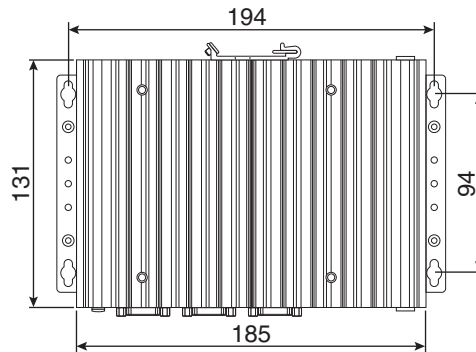
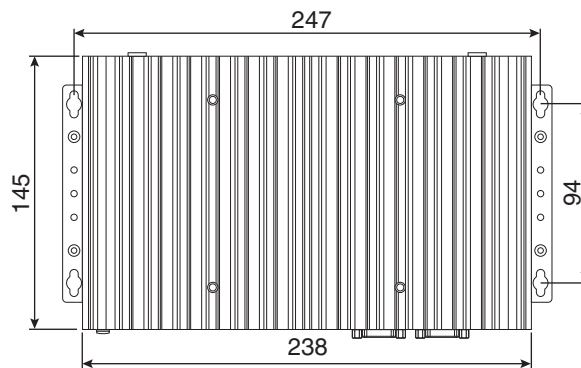

Figure 3-1 Mounting dimensions (BL2 BPC 1100, BL2 BPC 2100)
Figure 3-2 Mounting dimensions (BL2 BPC 3100, BL2 BPC 7100, BL2 BPC 9100)
1. Use the BL2 BPC ...100 as a template (or the dimensions shown in Figure 3-1 or Figure 3-2) and mark the locations of the holes on the mounting surface.